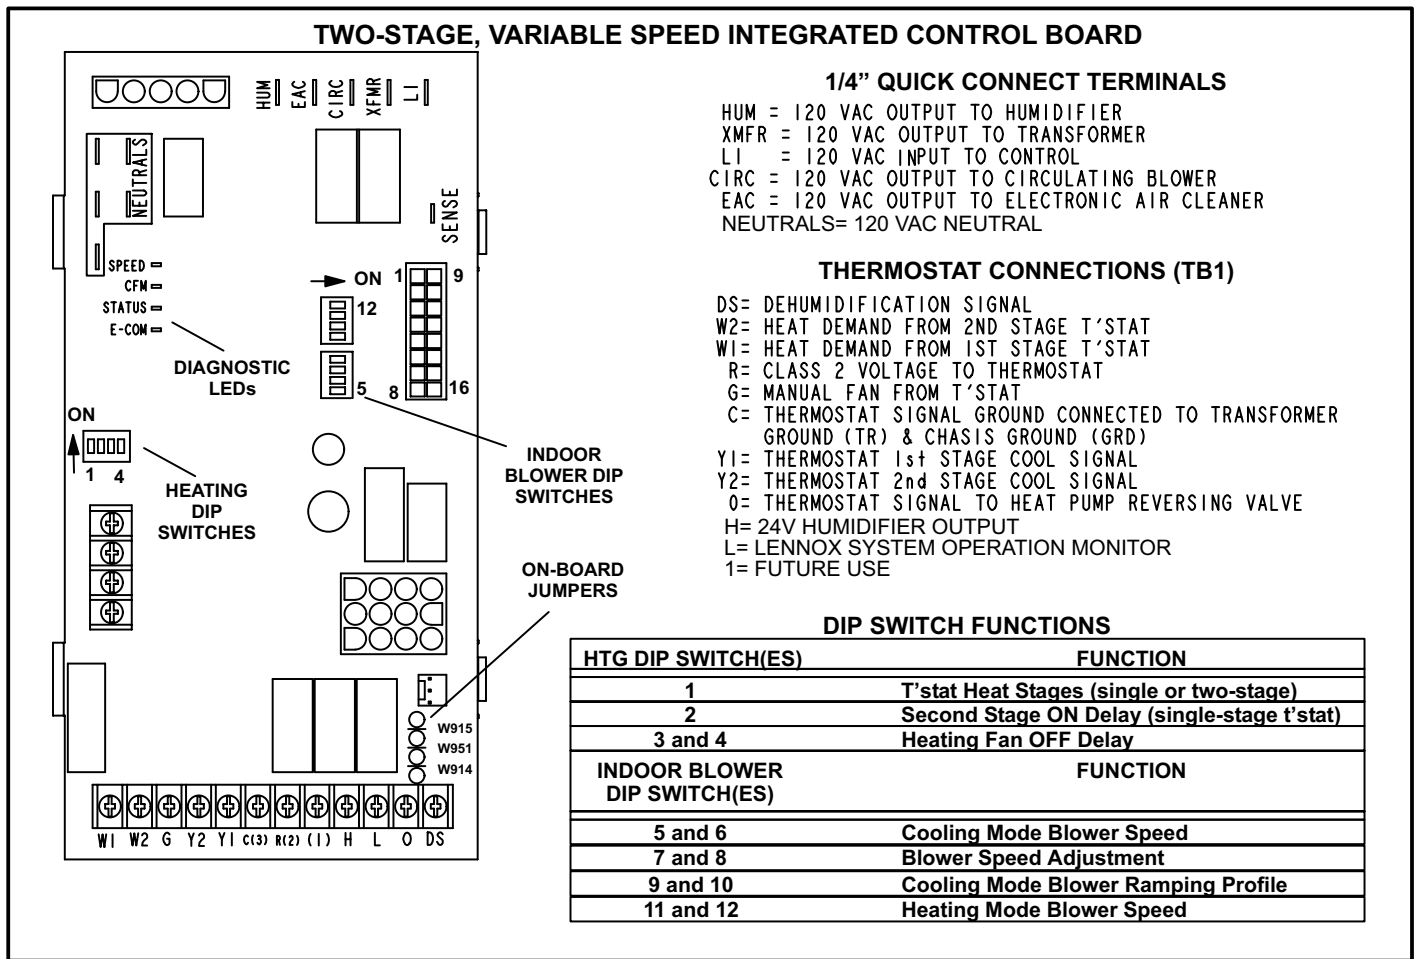

FIGURE 5
Beginning with the G60DFV-7, units are equipped with the Lennox two-stage, variable speed integrated SureLight control board. The system consists of a ignition / blower control board (figure 5) with control pin designations in tables 12, 13 and 14 and ignitor (figure 12). The board and ignitor work in combination to ensure furnace ignition and ignitor durability. The SureLight integrated board controls all major furnace operations. The board features a red LED light, for furnace status and troubleshooting. The LED flashes in "X" + "Y" codes. For example using table 15 under "PRESSURE SWITCH CODES", if the red LED flashes 2 times, then off for 2 seconds then flashes 3 times, the low pressure switch is failed open. Two green LEDs show indoor blower status and CFM. See Page 19 for more detail. The board also has two 120 volt accessory terminals rated at (1) one amp each. In addition there is a 24 volt accessory terminal located on TB1.